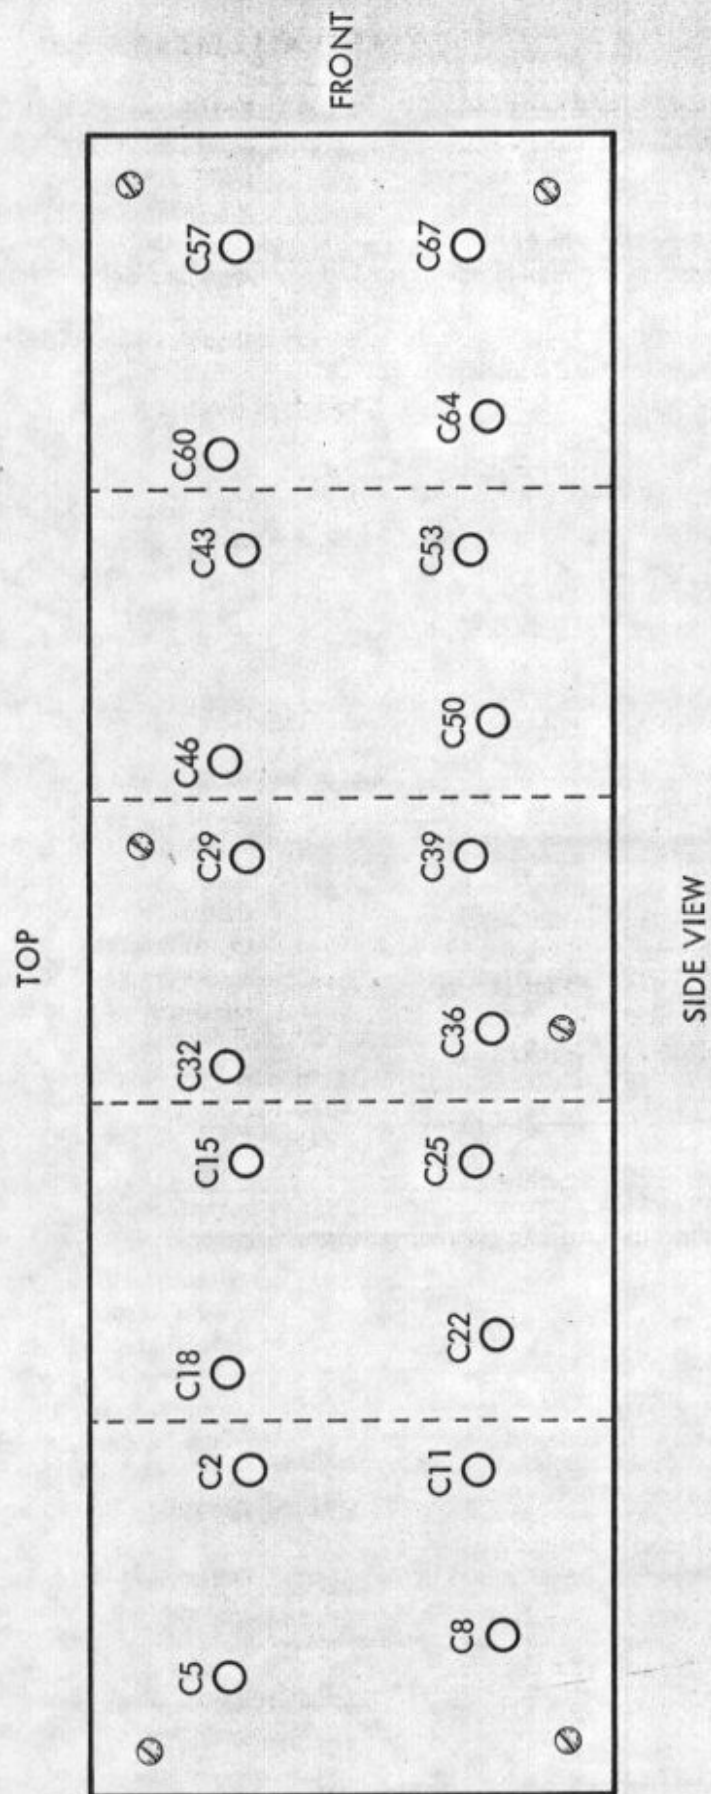

Figure 4-3. Access Hole Identifications, A10
- h) Tune C2, C5, C8, and C11 of A10 board (see figures 4-3 and 6-8) for maximum amplitude with minimum sidebands approximately 40 dB down or greater.
- d) Tune C15, C18, C22, and C25 of A10 board (figures 4-3 and 6-8) for maximum amplitude with minimum sidebands approximately 40 dB down or greater.
- d) Tune C28, C32, C36, and C39 of A10 board (figures 4-3 and 6-8) for maximum amplitude with minimum sidebands approximately 40 dB down or greater.
- d) Tune C57, C60, C64, and C67 of A10 board (figures 4-3 and 6-8) for maximum amplitude with minimum sidebands approximately 40 dB down or greater.